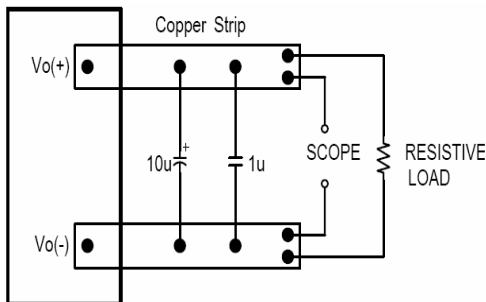

Figure 11: Output voltage noise and ripple measurement test setup
3.2 Output Voltage Ripple and Noise	5Hz to 20MHz bandwidth, Refer to Figure 11